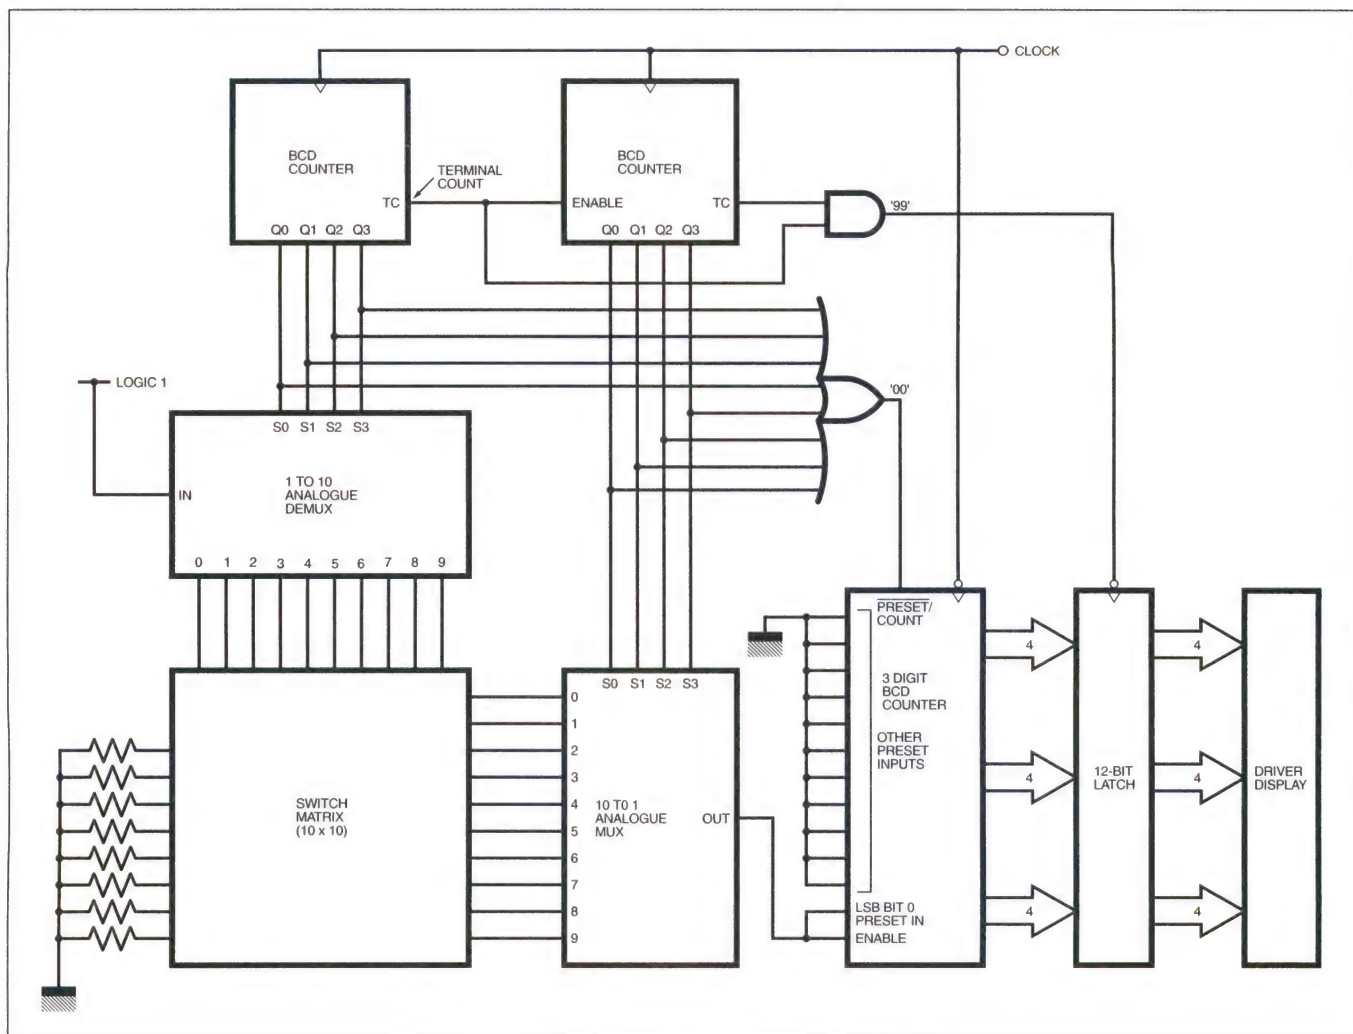

Fig.2. Matrix-scan based system to drive a display.
key was pressed but for our application we only need to know if each switch has been pressed or not. There is a slight complexity with the scanning in that we cannot drive the other columns to 0 when they do not have the 1 on them. If we did this, then pressing two keys at once would short out the driver's outputs. There are a couple of solutions to this: we can either use diodes to isolate the columns, or use a "scanner" which puts a 1 on one column and a high impedance on the others. In both cases we need pull-down resistors on the rows. An outline schematic for a matrix-scan based solution to the 100 switch counting problem is shown in Fig.2 (see next page). The column scan is controlled by a BCD counter connected to a CMOS analogue multiplexer/demultiplexer with its single input tied high. The BCD number selects
The continuous counting also means that the counter only holds the result for one clock cycle (after key 99 has been scanned), so we must latch the data into a register connected to the display. As the counter is clocked on the negative of the clock we can clock the latch on the positive edge. This signal can be derived from the TC outputs of both counters, as in Fig. 2, assuming that they are glitch-free.